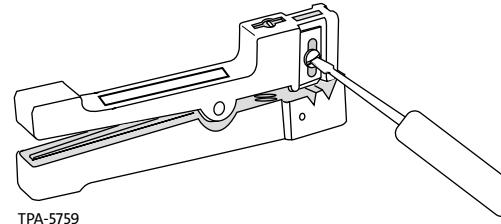

Figure 7
**Step 3:** Before using the small Ideal stripper, make sure that it is properly adjusted. Use a screwdriver (Figure 7) to adjust one of the blades on the side of the cable stripper so that it seats against the lower jaw, but does not force the jaw open. Leave the blades on the front and other side of the tool fully retracted so that they do not extend into the grooves of the lower jaw.